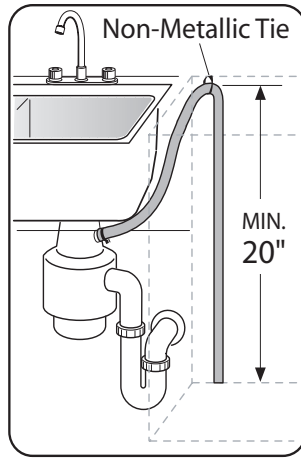

Figure 26
- 2 Directly to a disposer dishwasher drain connection, as shown in **Figure 26**.